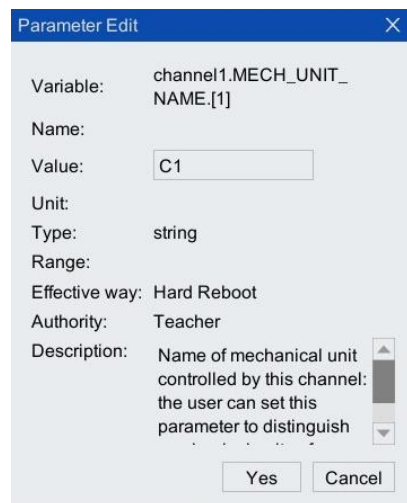

Figure 6-12 Mechanical unit name dialog box
- Step3. If you need to modify the configuration, click the line where the [1] subitem is located, click the <Edit> button, and the dialog box shown in Figure 6-12 will pop up. The parameters in [Value] can be modified. The parameter description is shown in Table 6-5.